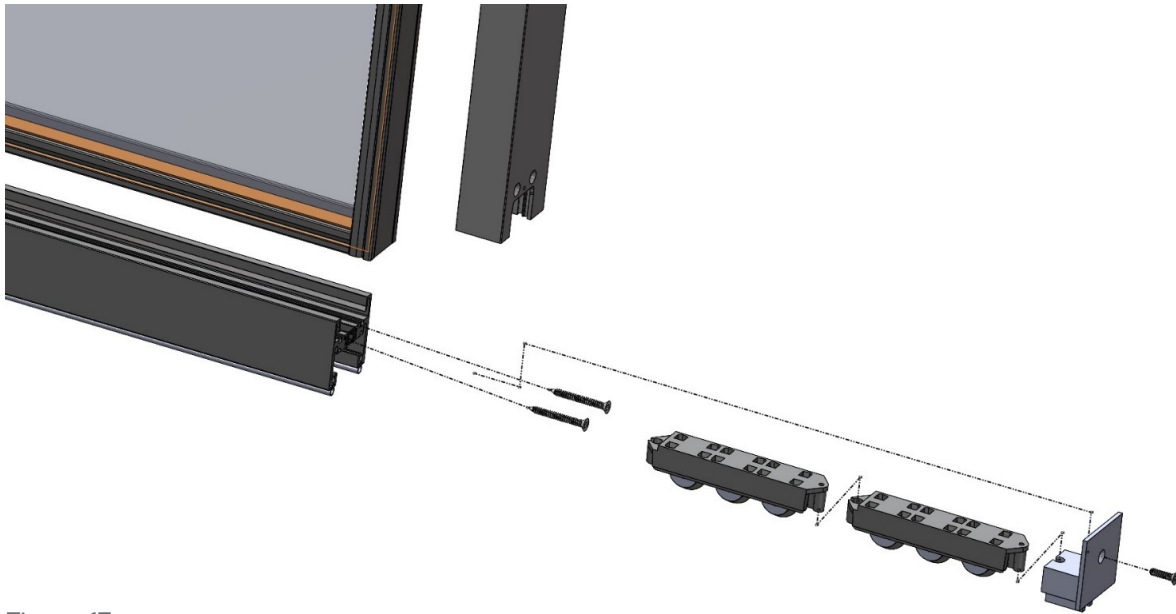

Figure 13
7. If needed and for adjustment, the roller assembly can be shimmed individually or per side with supplied shim stacks. Each shim is .015" thick and up to three (3) roller shims per roller assembly can be used. Once the roller assembly is set into the panel, continue with the opposite side.
10. Identify the correct quantity of roller assemblies and connect by sliding one (1) roller assembly onto the other. Repeat this step for all required rollers. Once all rollers are linked together, slide the end sweep onto the roller assembly and set roller assemblies in front of panel.
11. Taking care not to scratch or shift the lead panel over. With a pry bar, lift the panel high enough to slide the roller assembly system into place. Ensure that all rollers rest onto the track cap and roll freely. (See Figure 13).